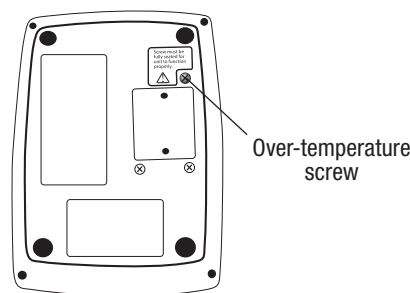

Fig. 3: Ranger over-temperature screw
7. Loosen the over-temperature screw on the bottom of the Ranger unit (see Fig. 3). Listen for a slight click as the microswitch opens.